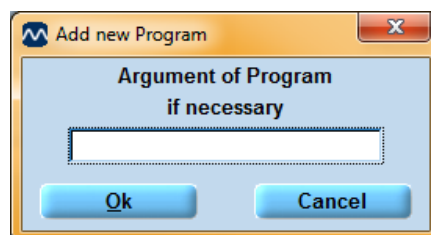

Figure 24
4. The following window will appear. If an argument for the program is required, enter the code here and click **OK** (Figure 24).